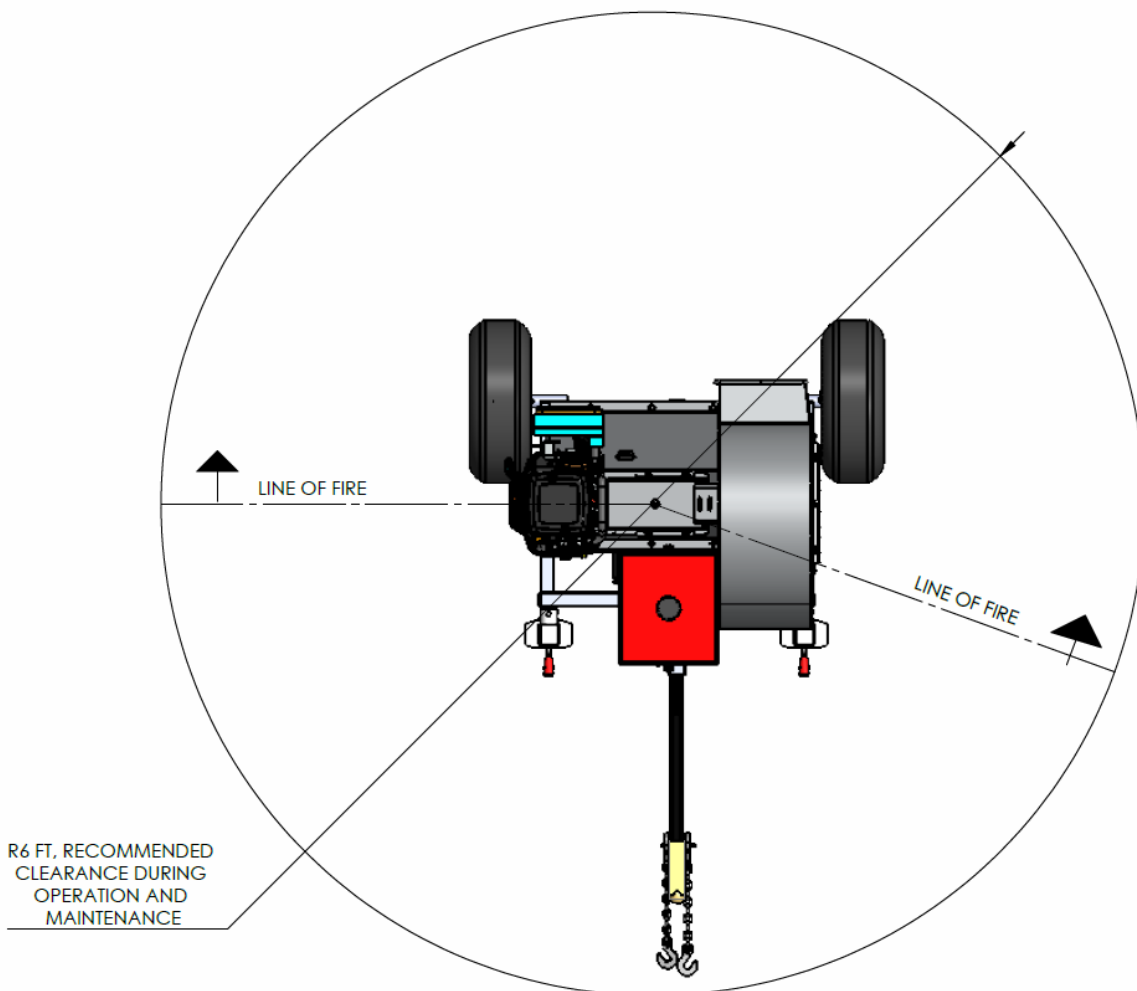

Figure 3: Recommended Clearance
- Do not allow children, animals, or bystanders within the work area, refer to Figure 3.
- Make sure all persons are clear of the equipment when in operation. Failure to follow any of the above warnings may cause serious bodily injury or death, refer to Figure 3.
Do not allow children, animals or bystanders within the work area. Refer to the Hazardous Work Area diagram (Figure 3 on the following page).